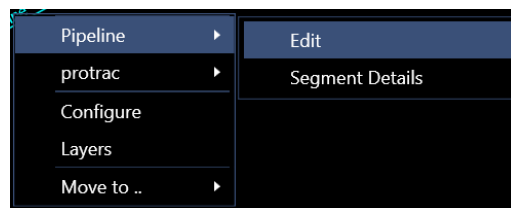

FIGURE 9-12 EDIT PIPELINE POP-UP MENU
1. Right click on a pipeline in the Map View to bring up the survey line Pop-Up menu (see Figure 9-12)